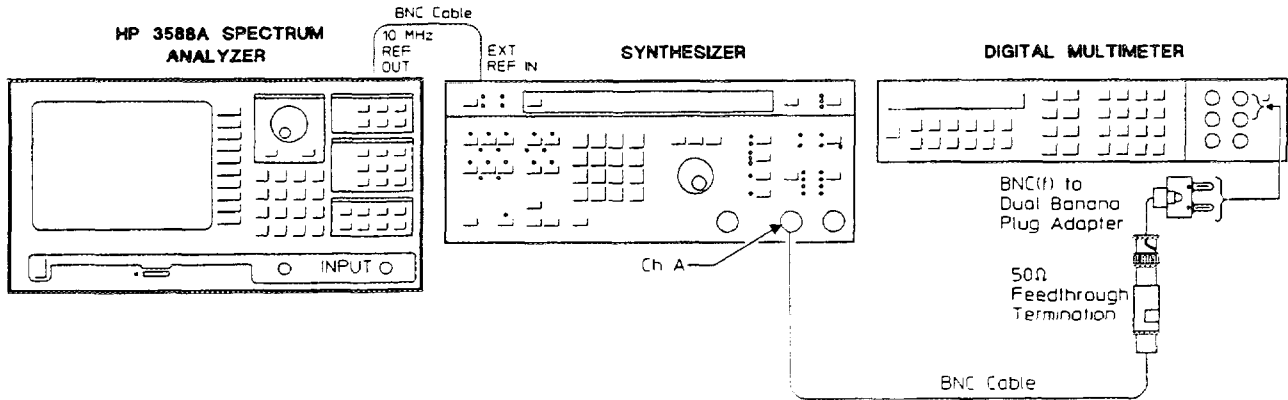

Figure 3-13. Reference Level Accuracy Setup
3. Connect the test equipment as shown in figure 3-13.